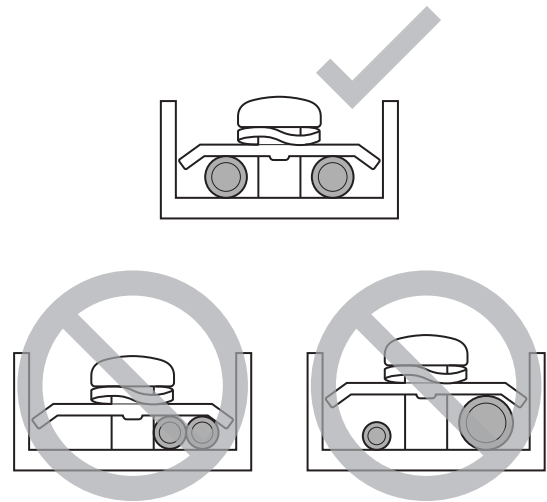

Fig. 42
- Installations equipped with a domestic hot water tank (field supply) require a dedicated power circuit for the booster heater. Please refer to the domestic hot water tank manual. Secure the wiring as shown in Fig 42.
- When connecting wires of the same gauge, connect them according to Fig 42.